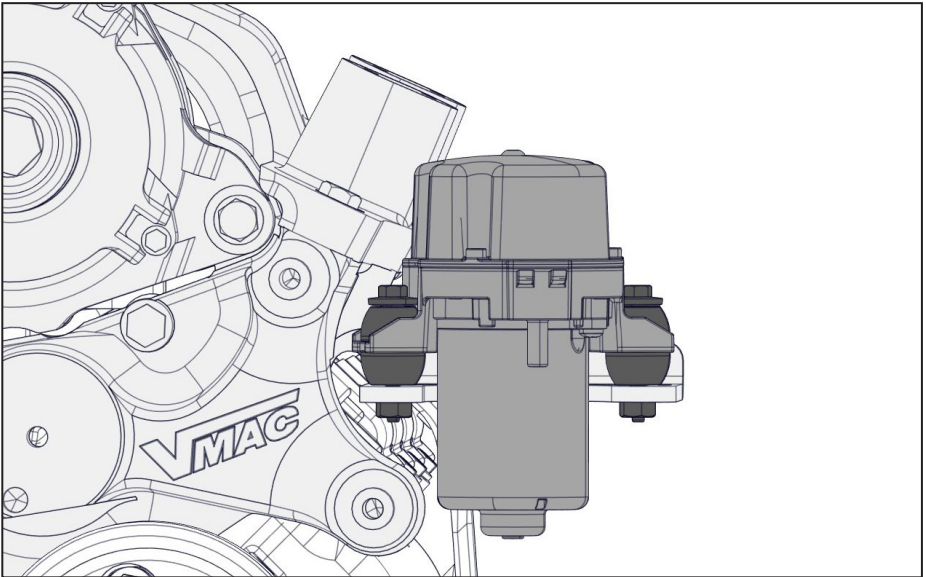

Figure 24 — Apply spiral loom
- ☐ **Vehicles equipped with vacuum pump only:** Using the OEM fasteners, install the vacuum pump onto the relocated bracket (figure 24).